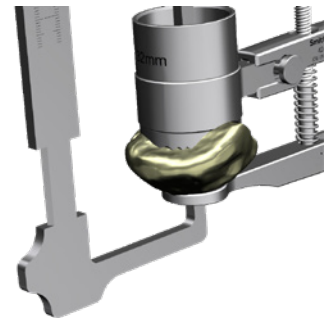

Figure 35
9. If the Resurfacing design is selected, use the Caliper to reassess the patella thickness (Figure 35).